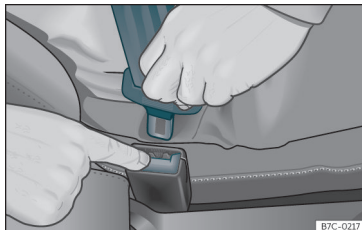

Fig. 10 Release the seat belt's buckle.
- Press the red button on the buckle >>> **Fig. 10**. The latch plate is released from the buckle.